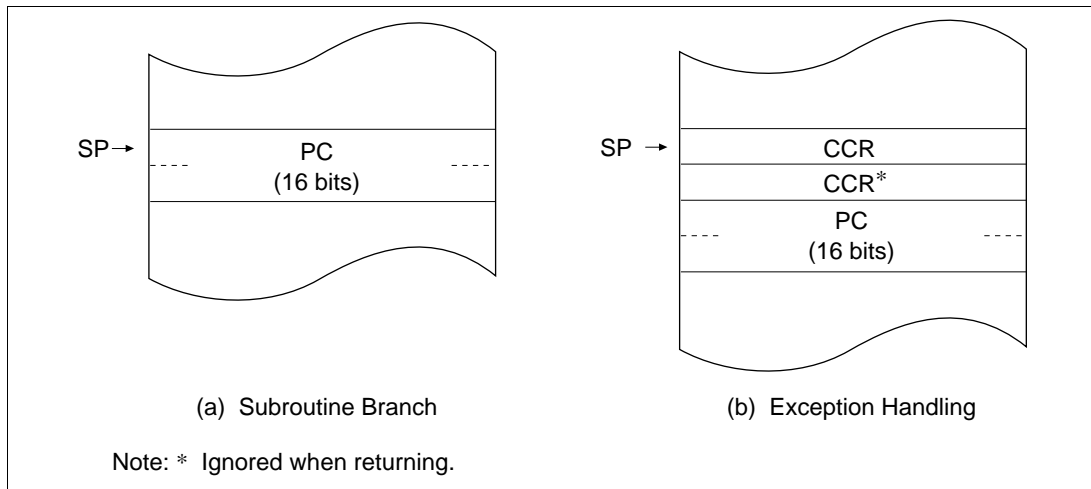

Figure 2.3 Stack Structure in Normal Mode
When the program counter (PC) is pushed onto the stack in a subroutine call, and the PC and condition-code register (CCR) are pushed onto the stack in exception handling, they are stored as shown in figure 2.3. The extended control register (EXR) is not pushed onto the stack. For details, see section 5, Exception Handling.